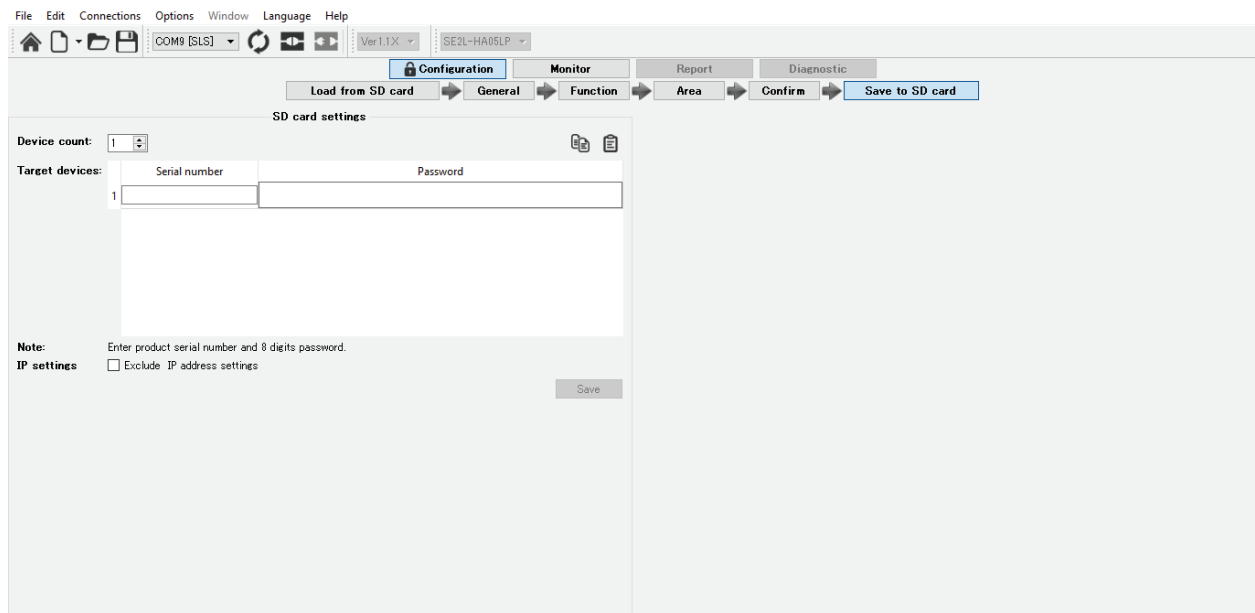

Figure 7-59 SD Card setting screen
- e) In the SD card setting tab (Figure 7-59), enter the serial numbers and the 8-digit passwords of all the SE2Ls intended to be configured with the settings on the SD card. To prevent the change of IP address of the SE2L, check the “Exclude IP address setting” on the tab. This will retain the original IP address of all the SE2L.